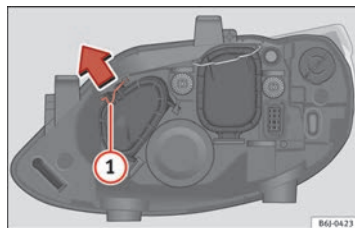

Fig. 164 Main beam headlight.
- Move the loop ① in the direction of the arrow and remove the cover ⇒ Fig. 164.